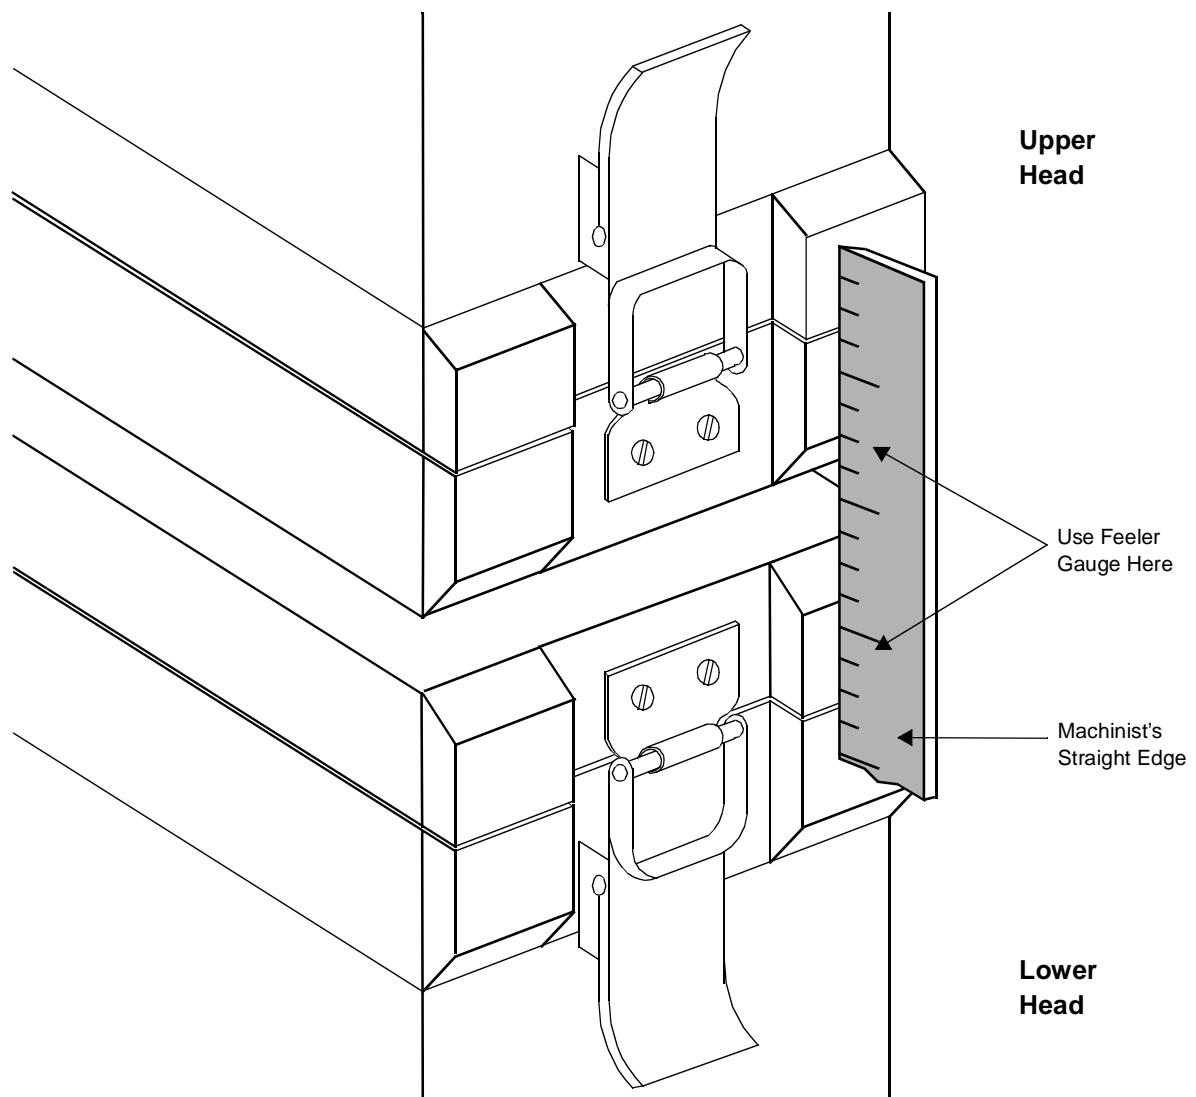

Figure 3-16 Scan Direction Optimum Alignment Point
2. Apply a straight edge and feeler gauge to the machined surface on the upper and lower sensor heads. See Figure 3-16.